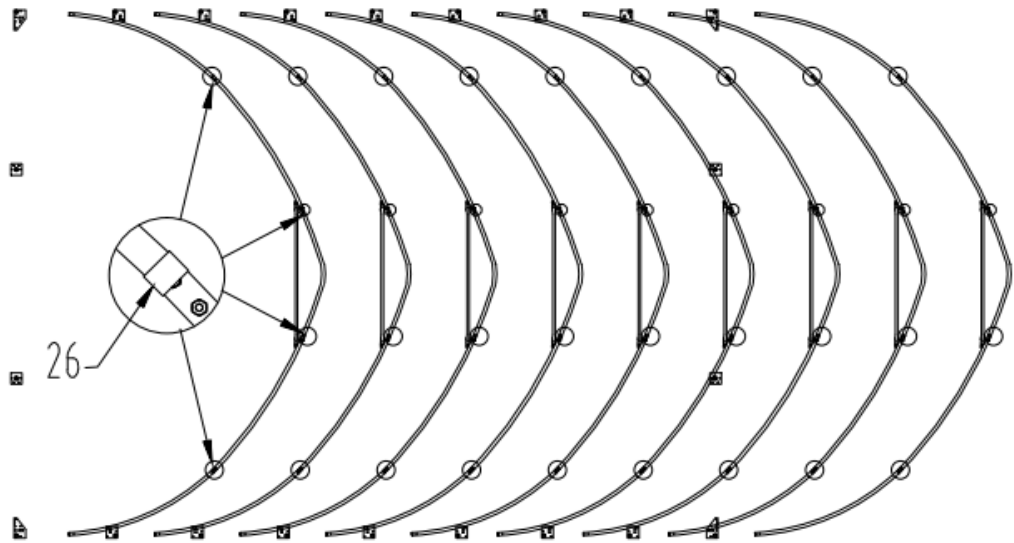

Figure 4
- Lay down all (9) trusses on the ground when the assembly is all completed and before moving to next step, and then wrap (#26) around the sharp points of the joint to avoid friction between the fabric and the interface, resulting in fabric damage (figure 4).
- (2) Scratch resistant tape (#26)